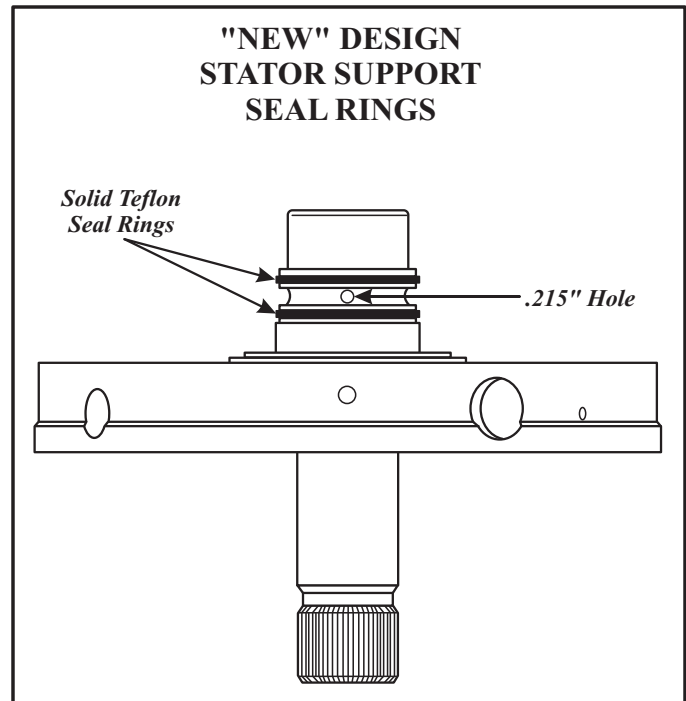

Figure 75
- (5) PUMP COVER SEAL RINGS - Will now be solid Teflon seals for use with the new reverse input housing with the large square feed hole, and does require a new installation and resizing tool (See Figure 75).